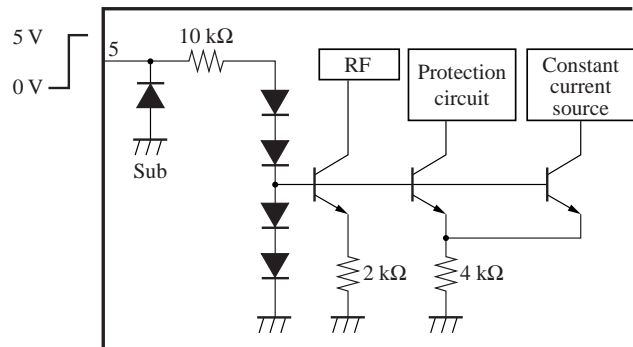

Figure 1
- (1) The power can be turned on or off by making pin 5 (standby terminal) high or low.
- (2) The standby terminal has threshold voltage of approx. 2.1 V, however, it has temperature dependency of approx.  $-6 \text{ mV}/^\circ\text{C}$ . The recommended range of use is shown in Table 1.
- (3) The internal circuit of standby terminal is as shown in Figure 1. When the standby terminal is high, the current approximately expressed by the following equation will flow into the circuit.